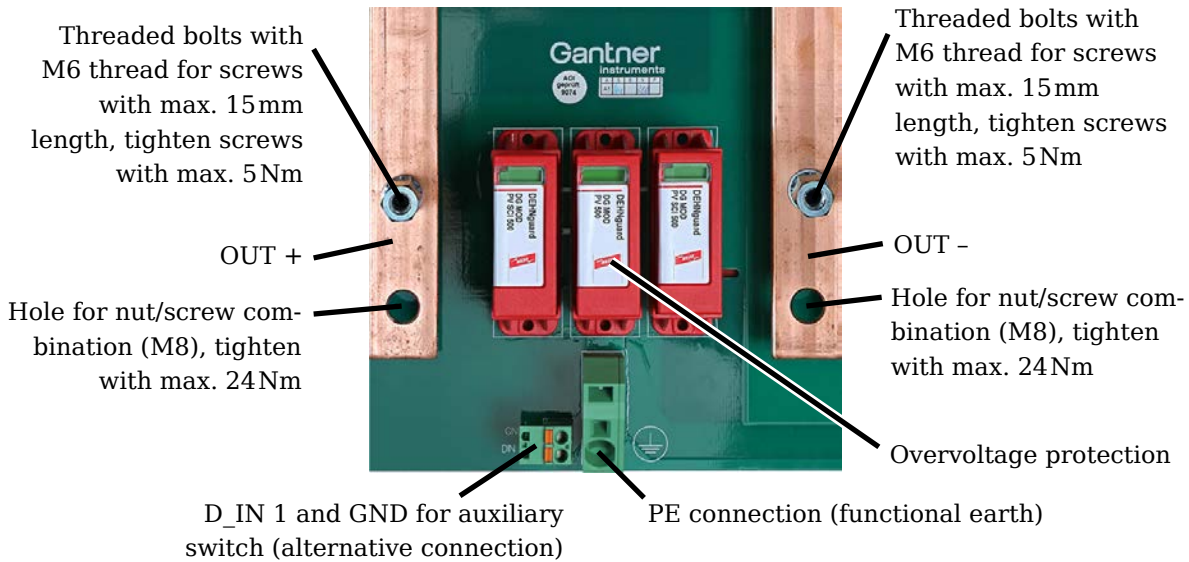

Fig. 3-3 Circuit board connections on the side for connecting the main switch.
1. Connect the functional earth (PE) (refer to Fig. 3-3).
4. Connect the auxiliary switch to the digital input D\_IN1 (Fig. 3-3).
5. Connect the cable for the positive output voltage to the bus terminal OUT + (left threaded bolt in Fig. 3-3).
6. Connect the cable for the negative output voltage to the bus terminal OUT - (right threaded bolt in Fig. 3-3).